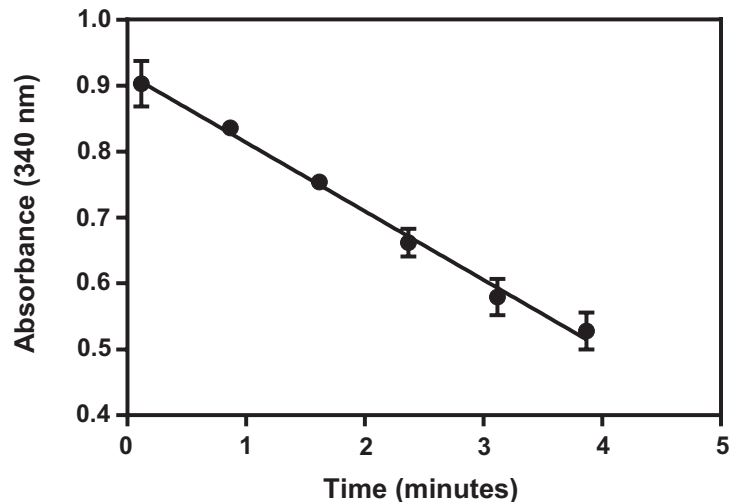

Figure 3. Activity of porcine heart alanine transaminase
- a. Plot the absorbance values as a function of time to obtain the slope (rate) of the linear portion of the curve (a graph is shown using porcine heart alanine transaminase, see Figure 3, page 14).